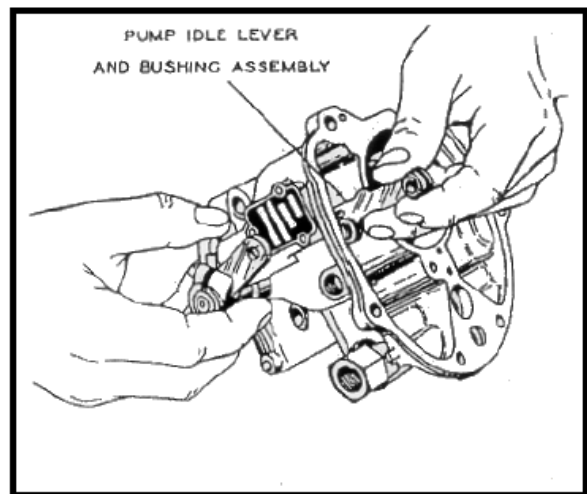

Figure 2-23. Installing Throttle Shaft and Lever Assembly
- h. Attach the pump idle lever and bushing assembly (46, figure 2-19) to the loose lever on the pump lever subassembly (67) and install and spread the cotter pin (48). Insert the pump lever subassembly between the inner and outer walls of the carburetor body and bowl assembly and while holding the assembly in position, insert the throttle shaft and lever assembly (65) through the pump lever subassembly. (See figure 2-23.)
- i. With the shaft in the wide-open position, insert the throttle valve (63) through the throttle shaft and lever assembly (65) making certain that part number which is stamped on the throttle valve can be read from the mounting flange end of the throttle body (80) and faces the side opposite the bolt (60).